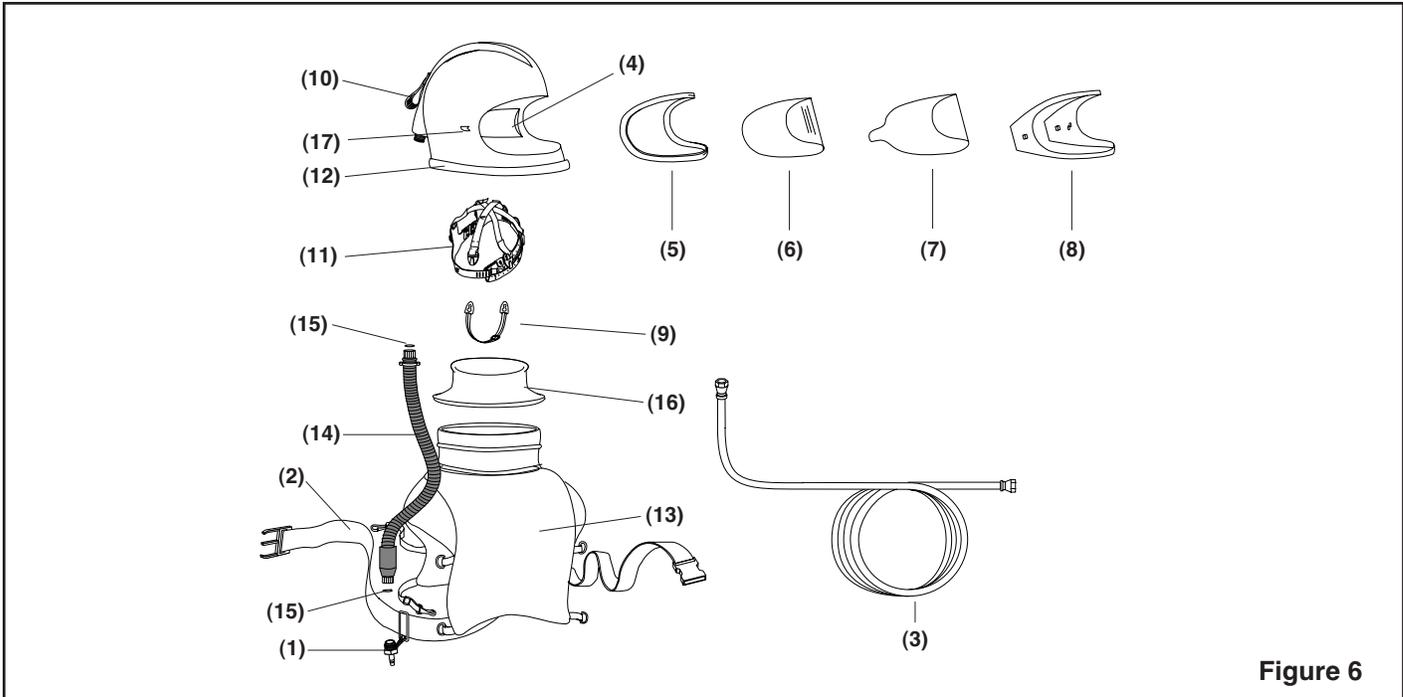

Figure 6
10.2 Supplied-Air Respirator, Figure 6